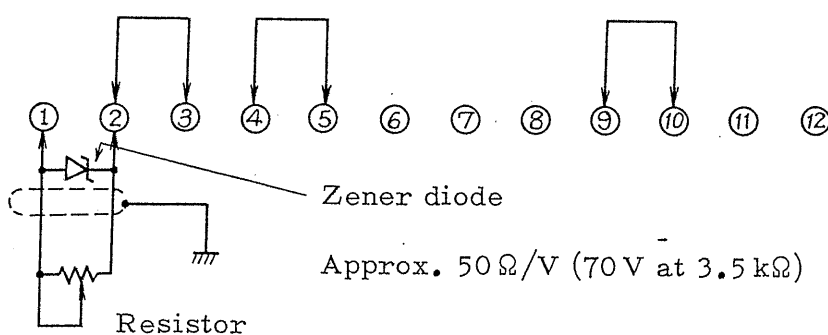

Fig. 13
- (1) In remote programming, the output voltage control knob COARSE on the front panel becomes unusable, and output voltage is controlled by means of the resistor externally connected. Since the value of the resistor is $3.5 \text{ K } \Omega$ at 70 V, the index becomes $50 \text{ } \Omega / \text{V}$. When it is desired to prevent the output voltage from increasing beyond a certain value, connect a zener diode of little leakage current as shown in Fig. 13.